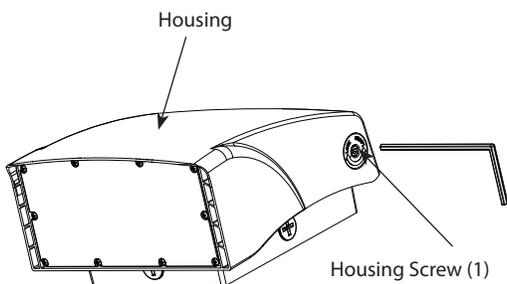

Fig: 11
1. Using an Allen Wrench loosen (1) **Screw** on **Housing** side as shown in Fig. 11.
4. Lower **Housing Cover** and secure with (1) **Screw** using an Allen Wrench as shown in Fig. 11.